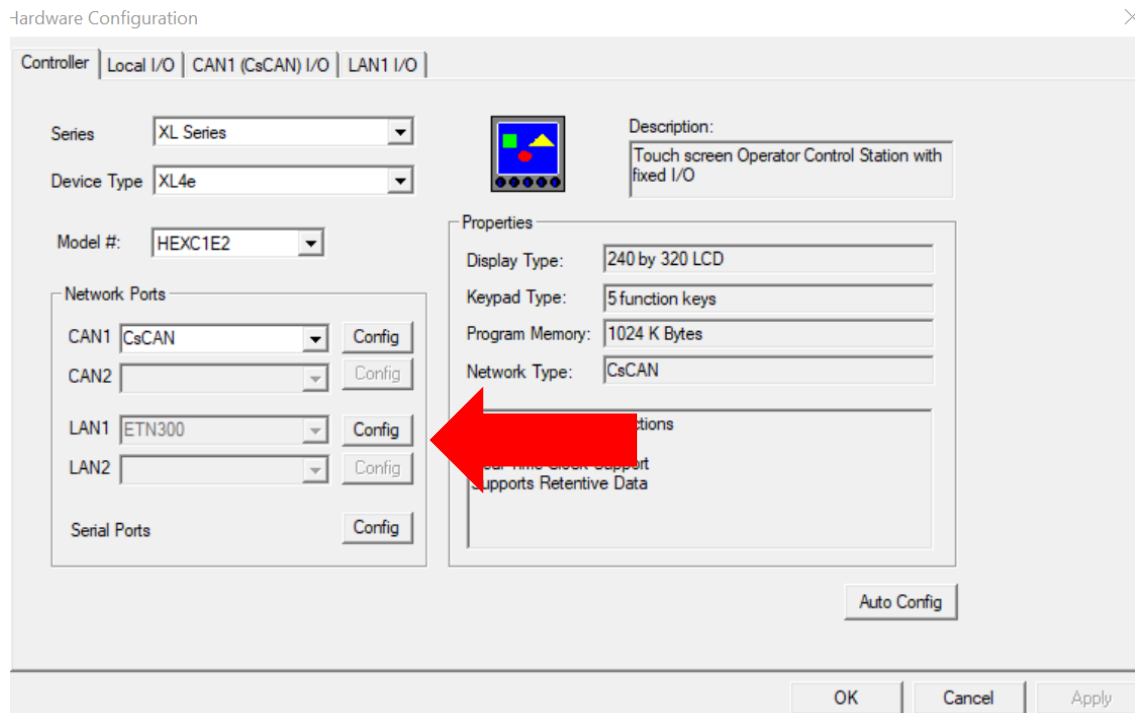

Figure 3-1 - Hardware Configuration Dialog - OCS Models with Built-In Ethernet
1. On the main Cscape screen, select the **Controller** menu and its **Hardware Configure** sub-menu to open the Hardware Configuration dialog (Figure 3.1).
NOTE: Figure 3.1 shows a typical Hardware Configuration dialog for OCS Models.